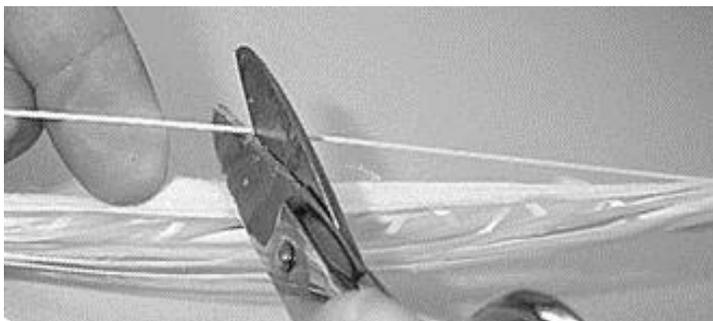

Figure 21 – Cut the ripcord.
5.7 Locate the cable ripcord and cut it in the middle (Figure 21).